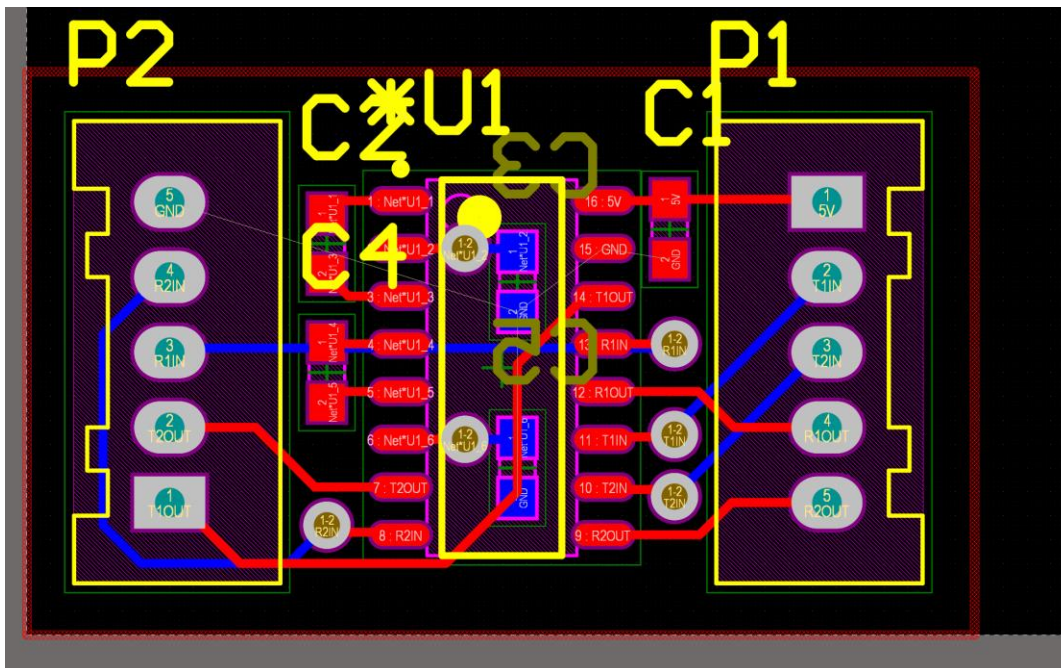

Figure 2: Completed Traces for Keep-Out Layer
2. Place tracks around your components as shown in Figure 2.